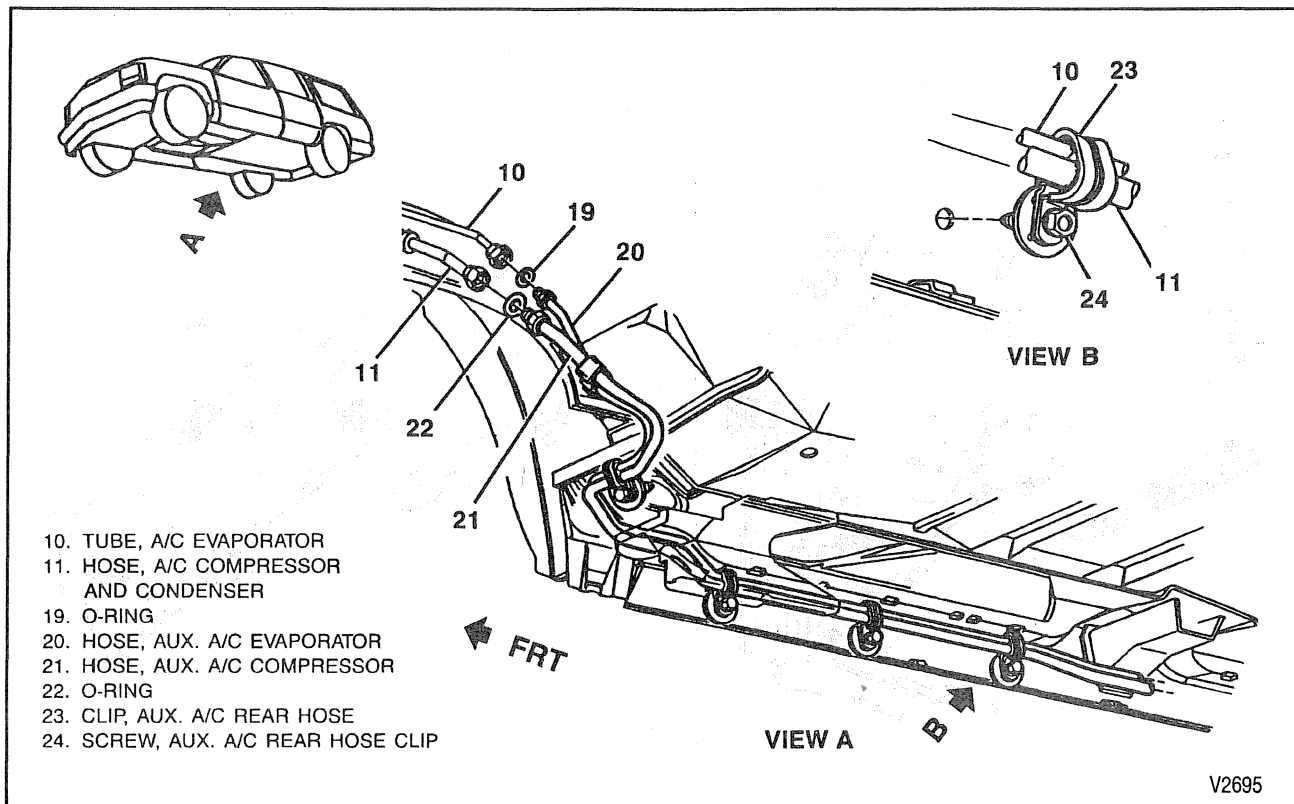

Figure 53—Auxiliary Condenser Hose Routing
#### Remove or Disconnect (Figures 53 and 54)
**Install or Connect (Figures 53 and 54)**
1. Auxiliary compressor hose (21).
2. Auxiliary evaporator hose (20).
3. Hose clips (23).
4. Screws (24).
- Screws (24) to 6 N.m (53 lbs. in.).
5. New O-ring seal (25).
6. Auxiliary compressor hose (21) to auxiliary evaporator (26).